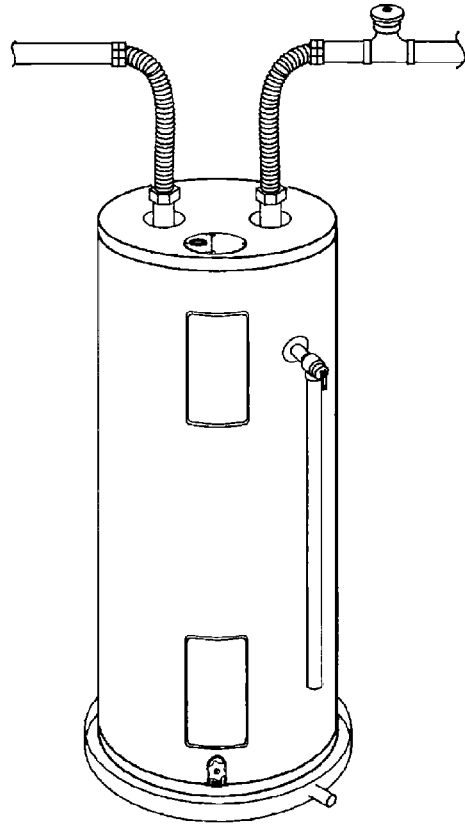

FIGURE 4.
1. Position the water heater so that the existing piping and electrical hookup will require the shortest distance between connections. Make sure that you are able to reach the drain valve and all access panels when the water heater is in place, see Figure 4. This will make it easy to service the water heater. The water heater must be level before you begin the piping.